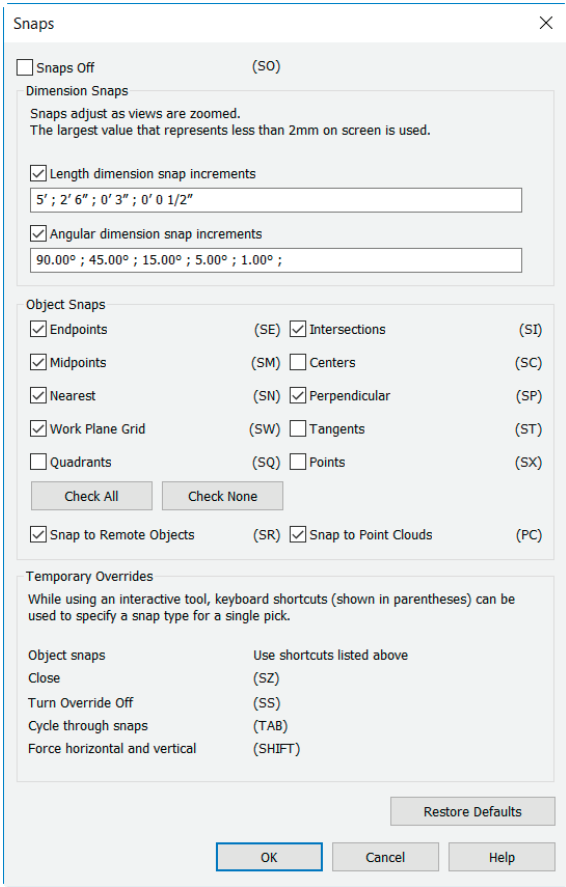

Figure 2-33 The Snaps dialog box
1. Choose the **Snaps** tool from the **Settings** panel of the **Manage** tab; the **Snaps** dialog box is displayed, as shown in Figure 2-33.
Figure 2-33 shows the value entered for length snaps increment.
4. In the **Object Snaps** area, clear the **Quadrants**, **Centers**, **Tangents**, and **Points** check boxes to disable them. Leave rest of the check boxes enabled, refer to Figure 2-33. Choose the **OK** button to apply settings and to close the **Snaps** dialog box.